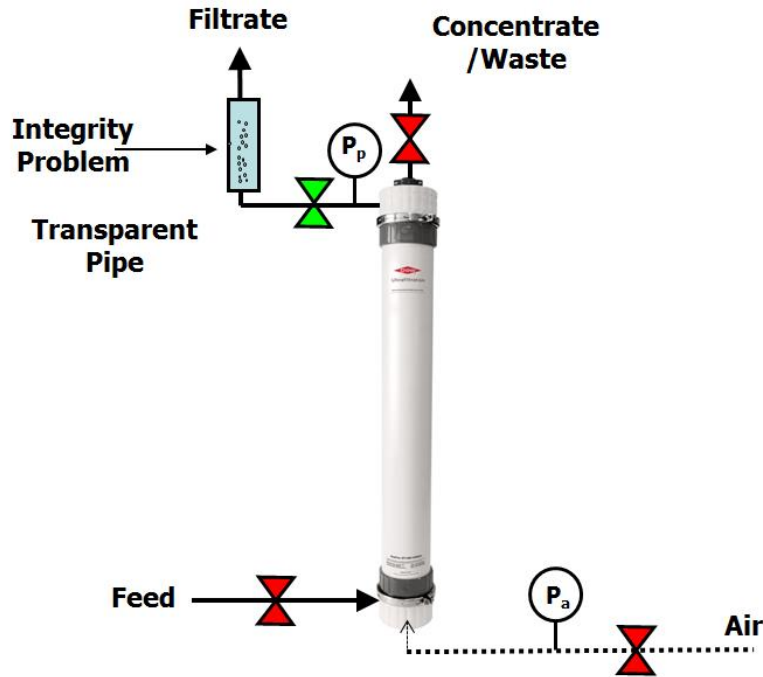

Figure 35. Pressure Decay Test diagram
1. Take the UF unit, skid or module out of the filtration mode (they should be in clean condition to avoid foulants to interfere in the results). Isolate the skid being tested from other skids in the system. Close the feed and concentrate valves (refer to Figure 35 below). Open the filtrate valve to allow water flow through the transparent pipe.